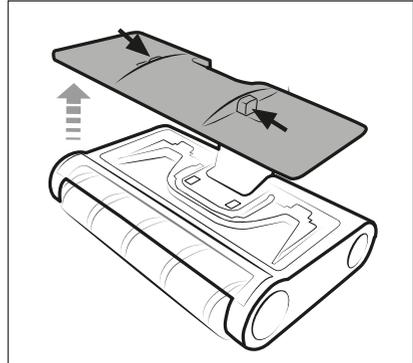

Fig. 9
- 2) Press the two release buttons on the cover **14** of the dirty water tank **13** and remove the cover **14** from the dirty water tank **13** (see Fig. 9).